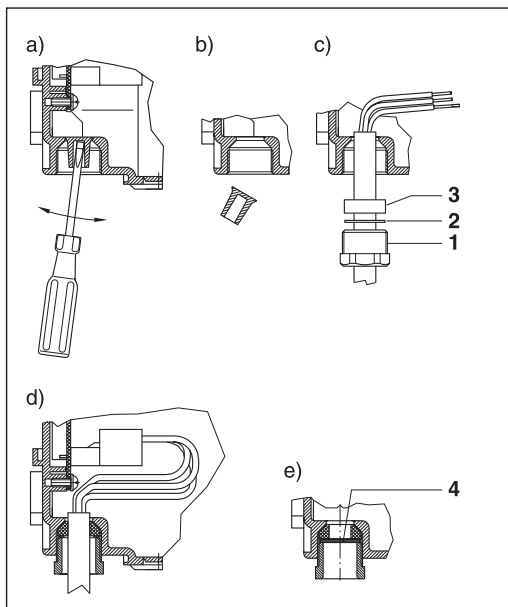

Fig. 2: Back row
- Back row (fig. 2): screwdriver DIN 5262-B, size 1 (Ø 4.5 mm)